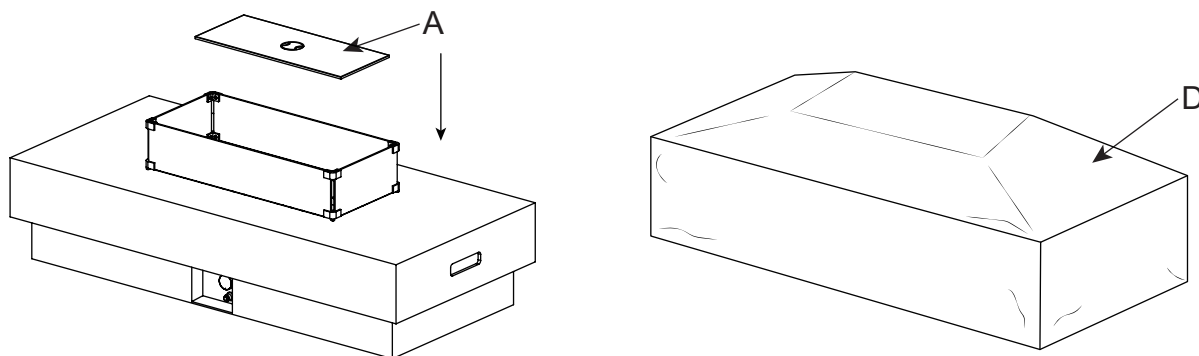

Figure 14
13. Once the firepit has cooled completely after use, carefully place the lid (A) onto the fire bowl and use the weather cover (D) to protect your fire pit from the elements (see Figure 14).